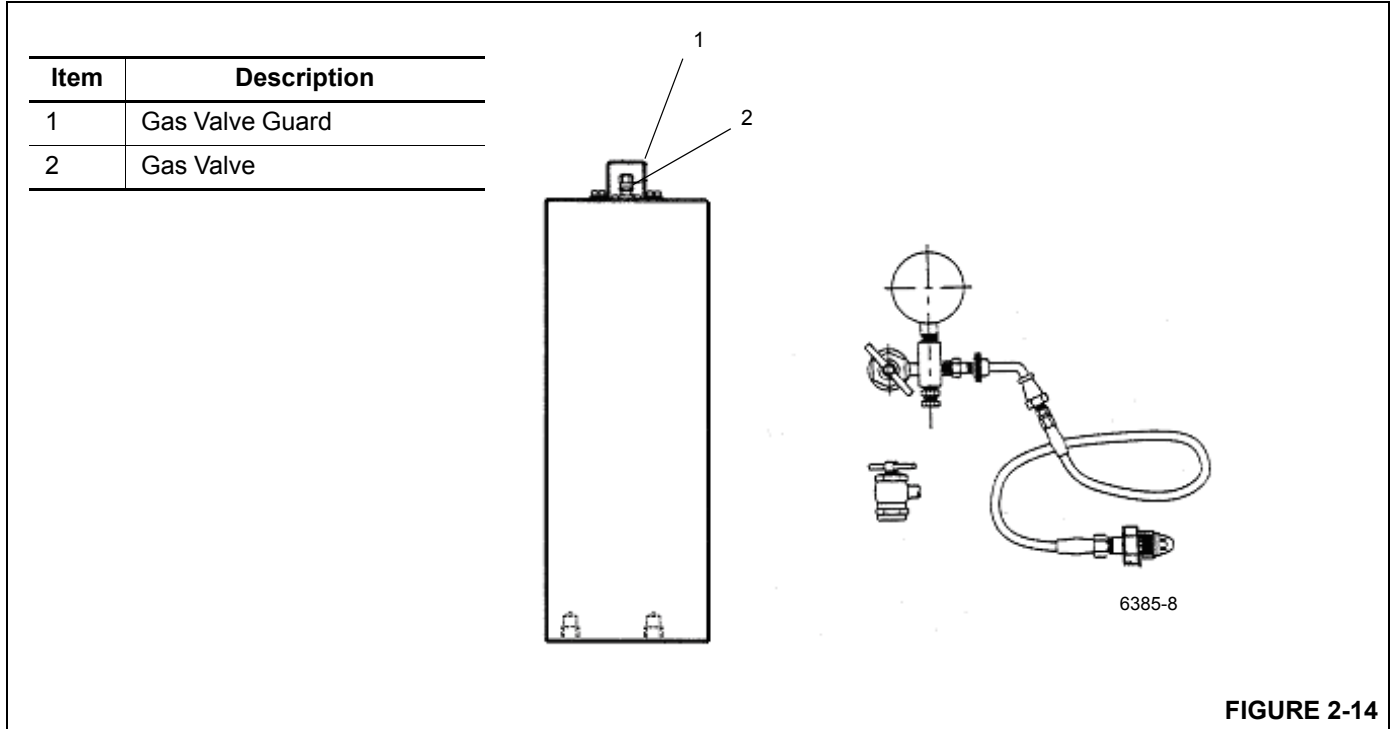

FIGURE 2-14
1. With the engine off, discharge all of the pressurized oil stored in the accumulators by depressing the service brake pedal on the cab floor 4 to 6 times or until the pedal has no back pressure. Remove the gas valve guard and cap on the accumulator (see Figure 2-14).
6. If the pressure is 1500 to 1550 psi, remove the charging valve assembly by turning the "T" handle all the way out on the gas chuck and then opening the bleed valve (see Figure 2-14).
7. If the pre-charge pressure is higher than specified in step #6, close the nitrogen bottle valve and slowly open the bleed valve on the charging assembly (see Figure 2-14) until the pressure is to specification.